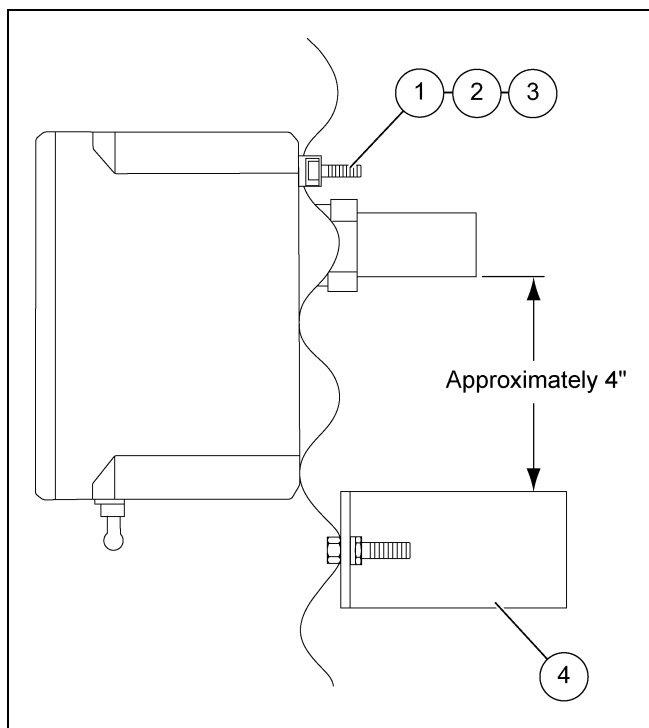

Figure 3A
1. Drill a 1-3/4" diameter hole at the location desired. Use the box as a hole guide. Mark and drill 5/16" holes through the plastic box where the bin ribs touch the box. Mark the holes on the bin. Then remove the box and drill through the bin. The nuts must be on the inside of the bin. (See Figure 3A.)
2. Mount the Level Monitor III to the outside of the bin using the two 1/4" x 1-1/4" bolts, lock washers, and nuts. Ensure that the neoprene seal is between the Level Monitor box and the bin wall. If the location of the Level Monitor is where a Stir-Ator auger might catch the capacitive sensor, install a guard (4). (See Figure 3A.)